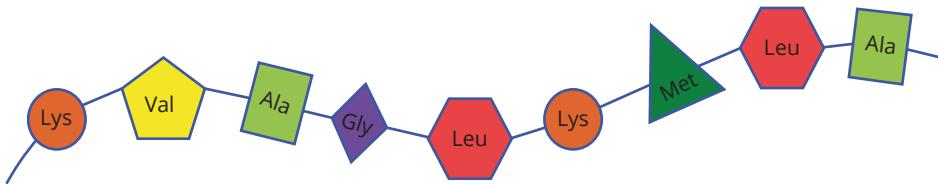

FIGURE 15.3.10 A section of a polypeptide molecule.
- 3** Figure 15.3.10 represents a section of a polypeptide molecule. Complete the paragraph by filling in the blanks. You may need to refer to the Table 15.1.1 on pages 464–5 to answer this question.